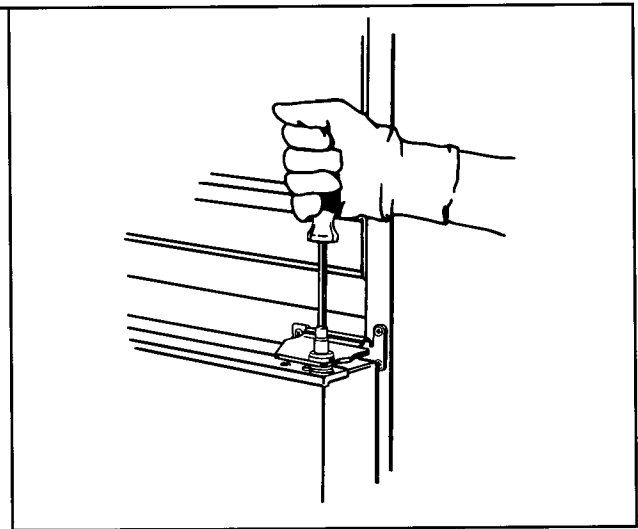

Figure 14
- b. Use a 5/16" nut driver to remove center hinge pin. See Figure 14.